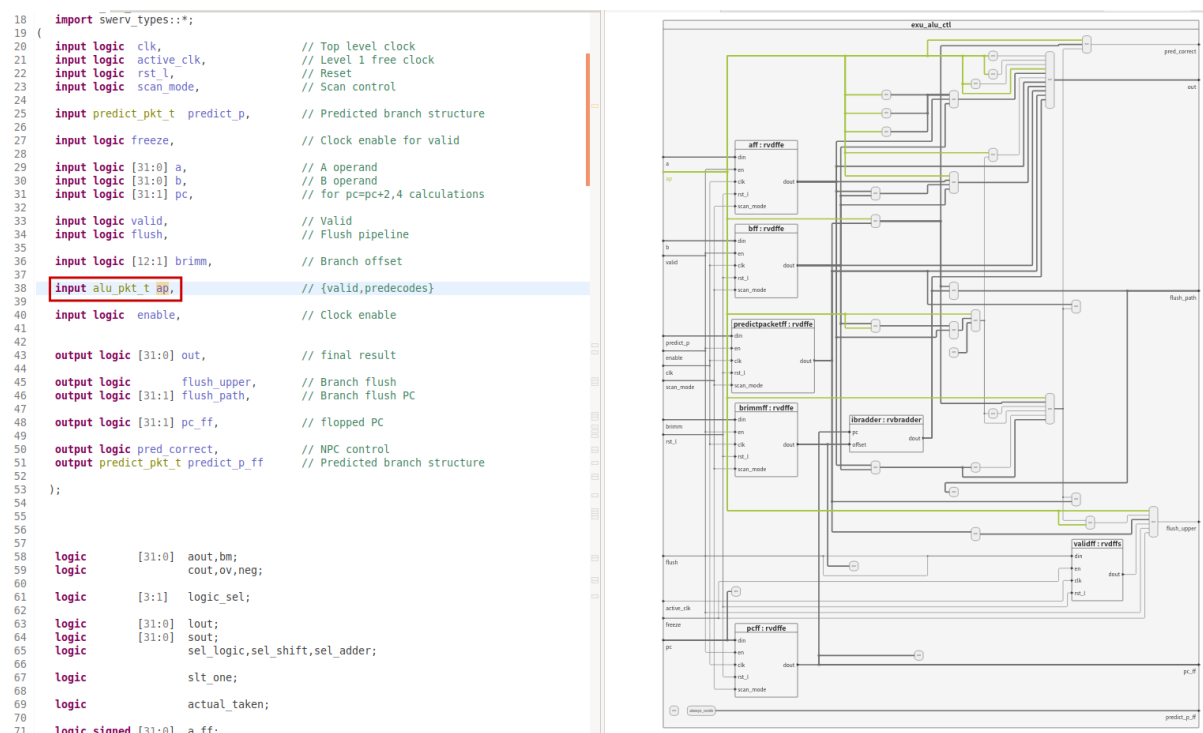

Figure 9. Highlight signal `ap`
3. You can highlight a signal on the diagram by right-clicking on it in the Verilog code and selecting Show In → Block Diagram. The wires associated with the signal will highlight on the Block Diagram window, as shown in Figure 9, where the `ap` packet is highlighted.